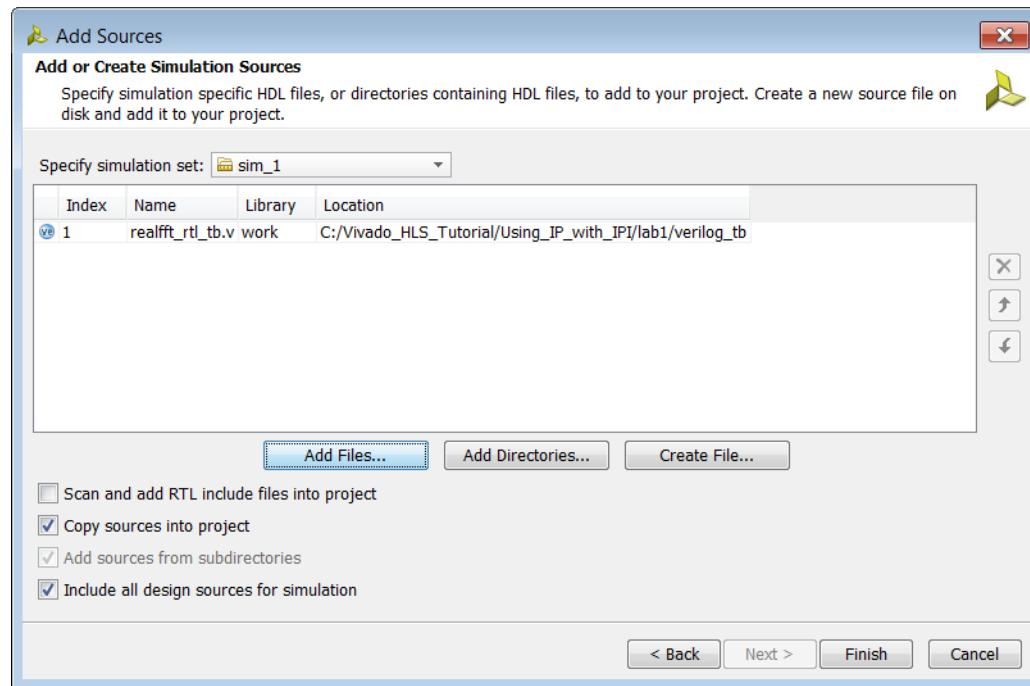

Figure 9-29: Copy Design Sources
8. Select the checkbox **Copy sources into the project** (Figure 9-29).